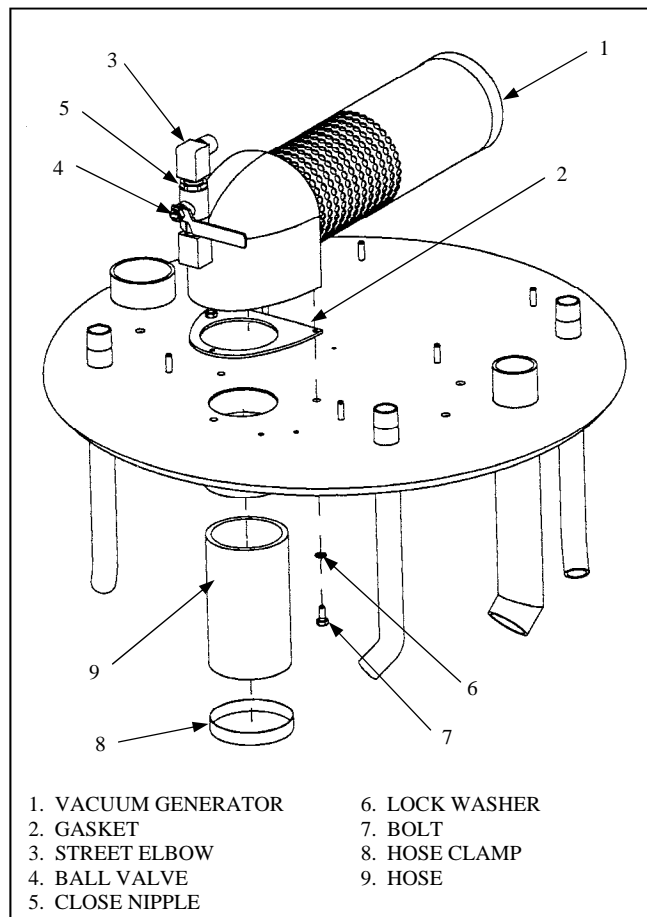

Figure 5-5. Tank Vacuum Group
- b. Remove remaining pneumatic tubes from tube connectors (1) and (2), at the manifold (3), and Control Valve (6).
- c. Remove manifold (3) from Sediment Chamber Lid by removing nuts (7), washers (8), and bolts (9).
5.3.2.3 Tank Vacuum Group. The Tank Vacuum Group is mounted to the Sediment Chamber Lid. Follow the maintenance steps in Paragraph 5.3.2 before beginning the next maintenance steps. See Figure 5-5 for the following steps.
- b. Remove bolts (7) and lock washers (6).